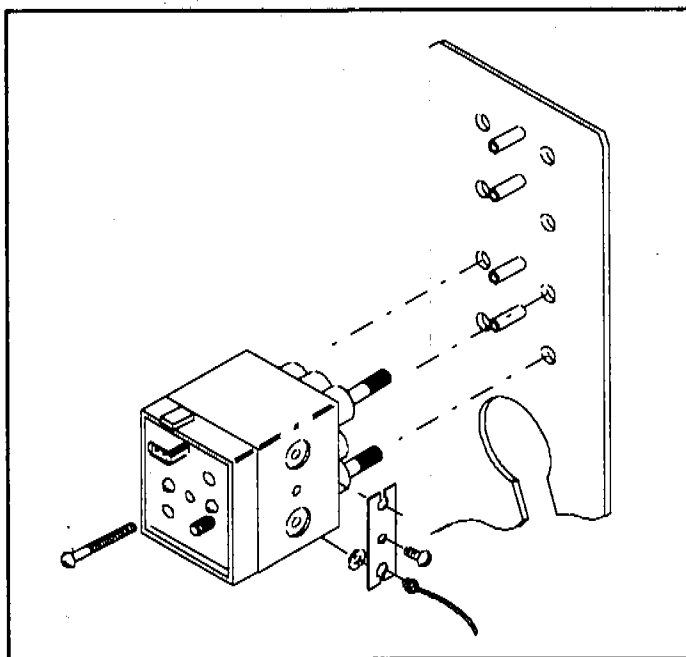

Figure 3.1. Gas Flow Module
The bottom, side port (Hydrogen) is the position used for the ELCD. The H₂ gas line from the Reactor Base is connected to this port after the Reactor Base is installed. (see Fig. 3.1).
- Slip the Gas Flow Module into place on the back side of the front left panel as shown in Fig. 3.1. The Module fits over the two stand-off posts and is fastened with the M4 x 45 mm Mounting Screw in the center location (**do not over-tighten the screw**). Check the ON/OFF valve for freedom of movement. If the valve knob is difficult to adjust, loosen the Mounting Screw and adjust the ON/OFF knob position until it is approximately half-open. Retighten the Mounting Screw and re-check the valve knob for freedom of movement.
- Attach gas supply lines to flow block by using the Manifold Plate (Part #197772) and Manifold O-Ring (Part #185116) as in Fig. 3.1.